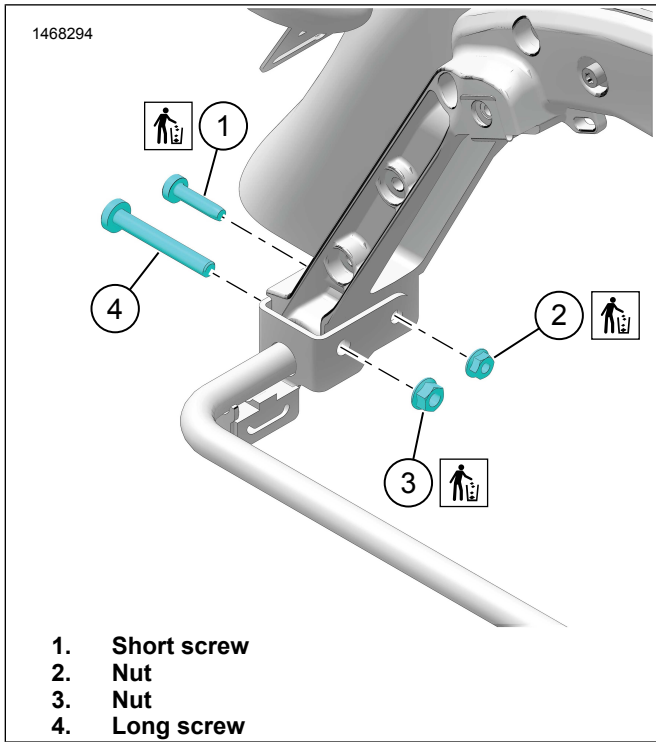

Figure 3. Hardware Removal
1. See Figure 3. Remove existing hardware:
- a. Short screw (1) and nut (2). Discard hardware.
- b. Long screw (4) and nut (3). Discard nut.